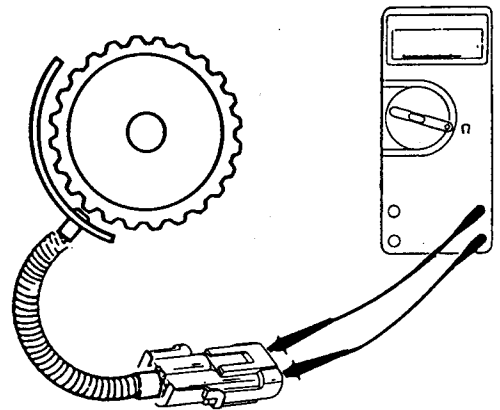

FIG. 6
**Correction:** Check that connections are tight with no evidence of corrosion. Disconnect harness at the control module. Measure resistance between tach sender wires; 50 - 300 ohms is a good reading (Fig. 6). The Motorola 7EP2033 or Volvo/White 13603-0013 will read 245-255 ohms.